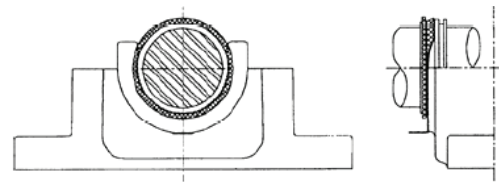

Figure 4b
- Locate the bearing and seal assembly into the housing base (Figure 4b). Make sure the seal assembly turns freely in the base by rotating shaft. See bearing mounting instructions for proper grease fill of bearing insert and housing.